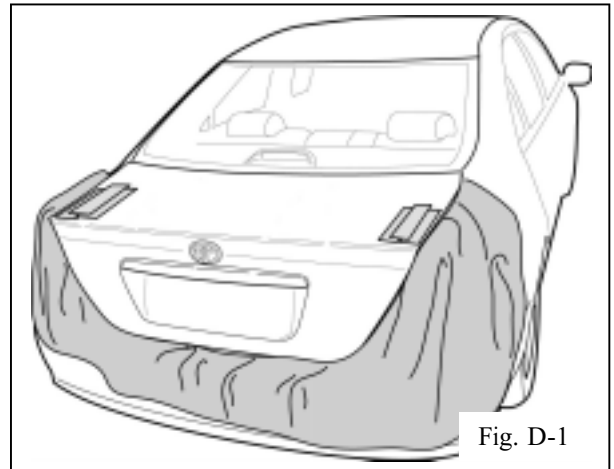

Fig. D-1
- STOP** 3. Apply masking tape to the trunk lid surface in the area of the hole locations. (Fig. D-1)